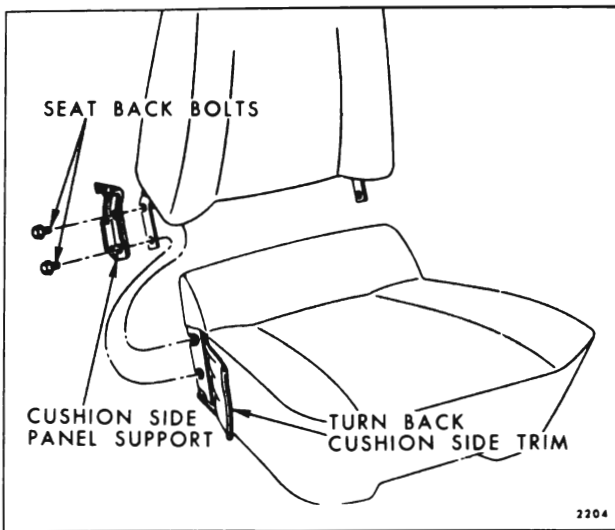

Fig. 15-36 — Bucket Seat Back Removal (Without Reclining Seat Back) - All Except Corvair
2. With seat side panels removed, remove hog rings securing seat cushion trim at rear of seat and along bottom of seat and turn back trim sufficiently to expose seat back hinge-to-seat cushion frame attaching bolts (Fig. 15-36).
3. Remove seat back hinge-to-seat cushion frame attaching bolts (Fig. 15-36) from both sides of seat and remove seat back assembly from seat cushion.